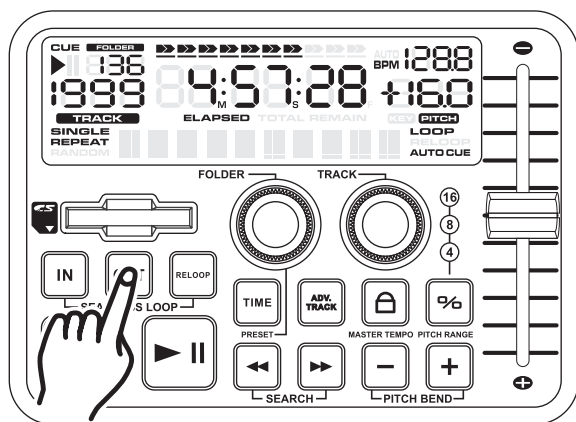

Figure 11
- 3) Press the *OUT BUTTON (36)* to set the ending point for your SEAMLESS LOOP (Figure 11). The *IN BUTTON (36)* and *OUT BUTTON (36)* LEDs will immediately begin to flash rapidly, indicating the SEAMLESS LOOP mode has been activated.